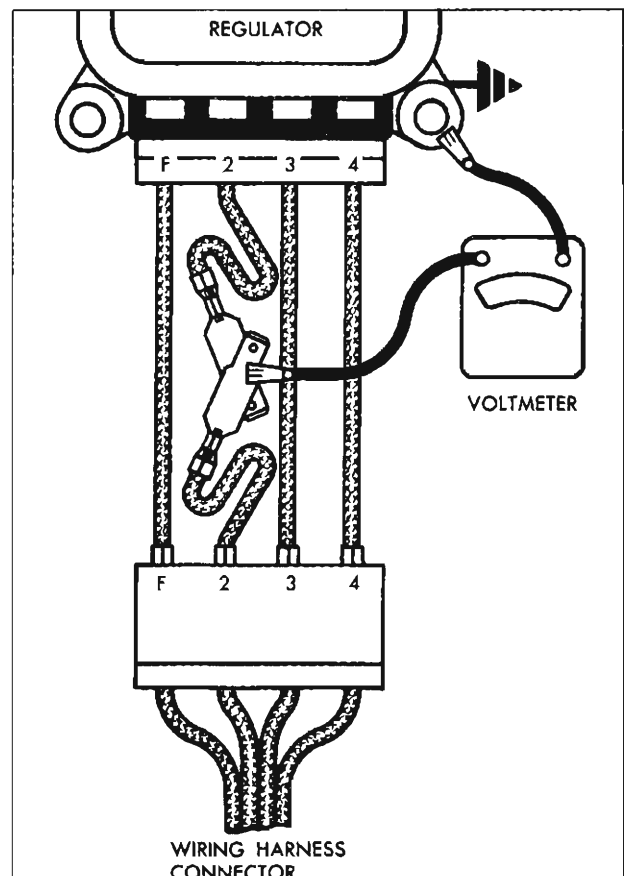

Fig. 10c—Testing Field Relay
1. Connect a voltmeter into the system at the regulator No. 2 terminal to ground (fig. 10c).